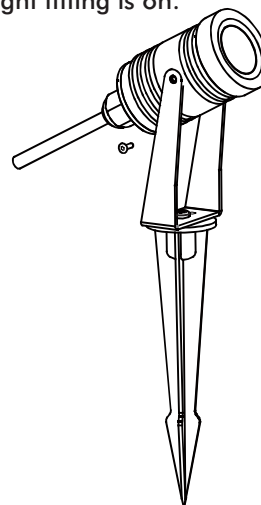

Fig 2.4
2.4 Assemble the bracket to housing by the M3 screws. (See Fig 2.4)